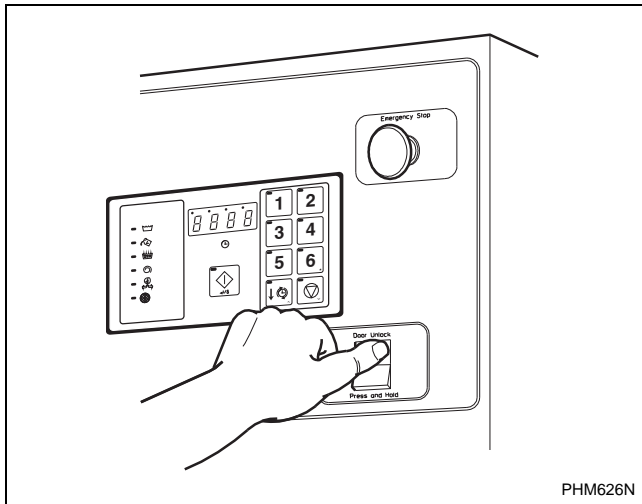

Figure 25
2. Use left hand to press and hold the door unlock button located on the lower right front of the control panel. Refer to *Figure 25*.